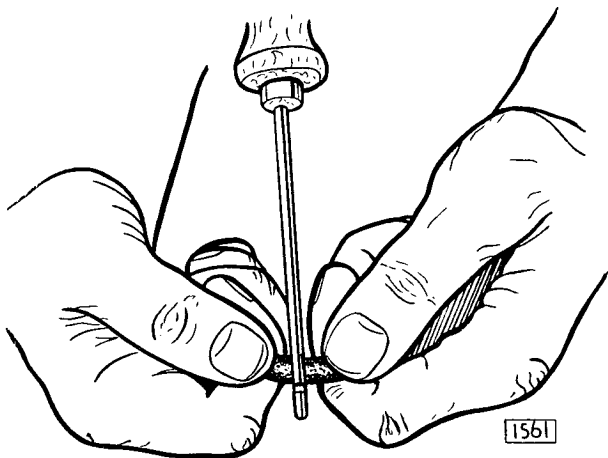

Fig. 26. Threading rubber plug into special needle.
3. Select a suitable plug according to the size of the puncturing object and stretch and roll it into the eye of the needle leaving about $\frac{1}{4}$ " (6.35 mm.) of plug on one side of the needle. (Fig. 26.)